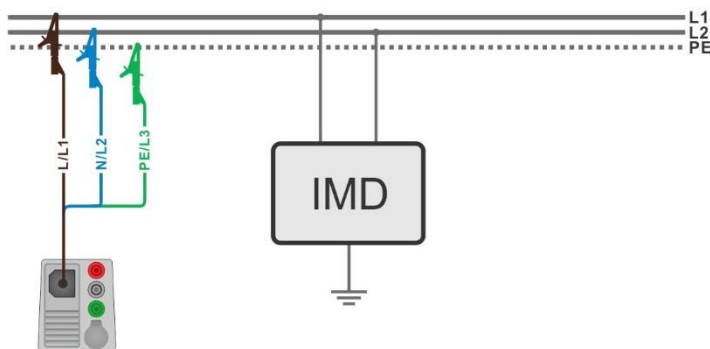
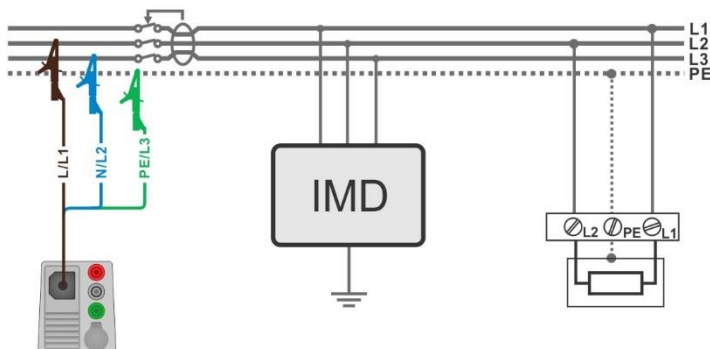

Figure 7.118: Measurement of highest First fault leakage current with 3-wire test lead
Figure 7.119: Measurement of First fault leakage current for RCD protected circuit with 3-wire test lead
- › Connect 3-wire test lead to the object under test, see **Figure 7.118** and **Figure 7.119**.